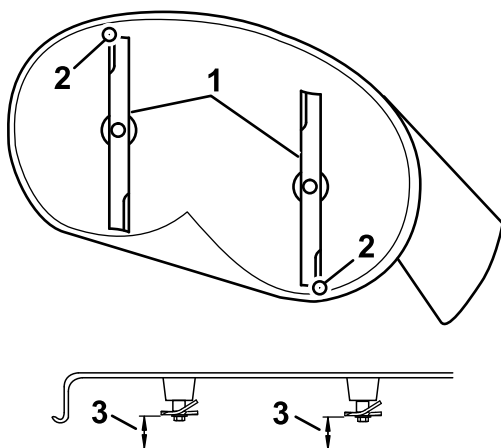

Figure 66
4. Carefully rotate the blades so they are facing front to rear (Figure 66).
5. Measure from the tip of the front blade to the flat surface and the tip of the rear blade to the flat surface (Figure 66).